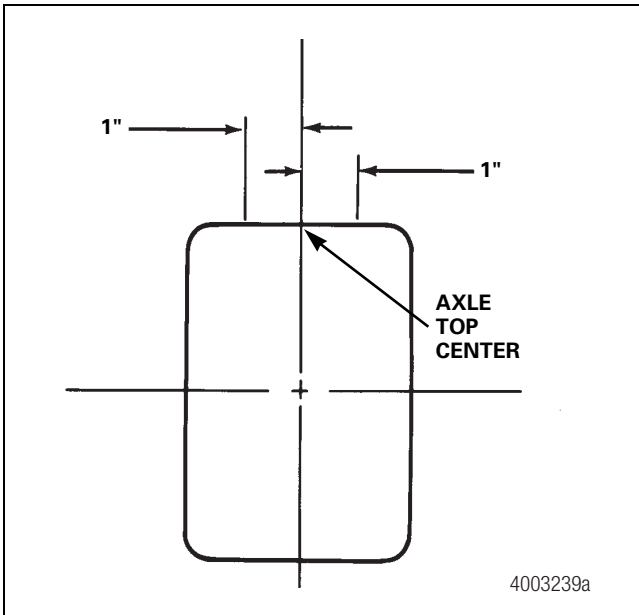

Figure 7.12
- Welding is not allowed within one-inch (25.4 mm) of the top-center of the axle. Figure 7.12.